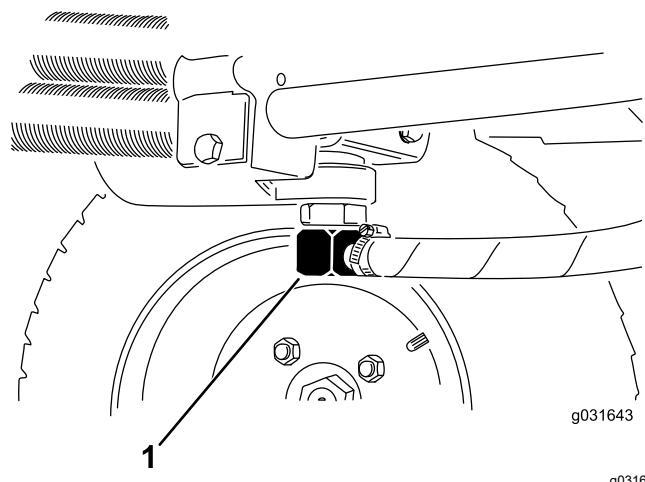

Figure 66
3. Install the hydraulic line when the hydraulic fluid stops draining (Figure 66).
2. Disconnect the hydraulic line or remove the hydraulic filter and let the hydraulic fluid flow into a drain pan (Figure 68 and Figure 66).